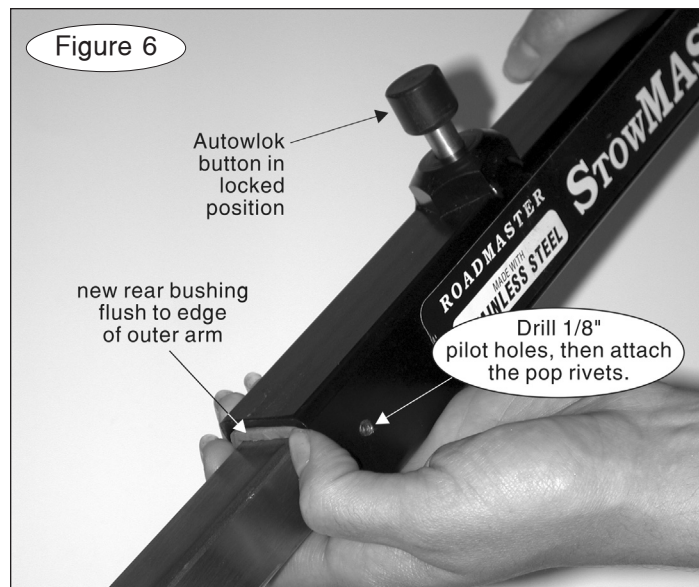

Figure 6
9. Hold the pin down flush to the top of the inner arm, and insert the inner arm into the outer arm. Slide the arm forward until the Autowlok button snaps into the locked position (Figure 6).
10. Apply a light coat of lubricant to the inside of the new rear bushing. As before, use a dry silicone aerosol. Then, with the gap in the bushing facing down (Figure 3), slide the new rear bushing onto the inner arm and forward, until the edge of the bushing is flush to the edge of the outer arm, as shown in Figure 6.
13. With the safety bolt attached, the Autowlok button in the locked position (Figure 6) and the rear bushing flush to the edge of the outer arm (Figure 6), drill two 1/8" pilot holes for the pop rivets (Figure 6).